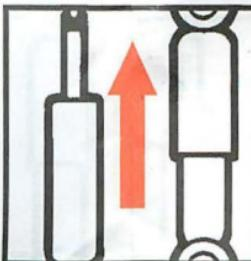

FIG. 2
**2** The shock absorbers must always be installed with the rod side up. (Fig. 2)